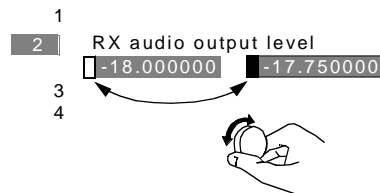

Figure 49
- 8 Rotate the CURSOR CONTROL knob to move the cursor and select the **Upper Limit** value field (see figure 49).